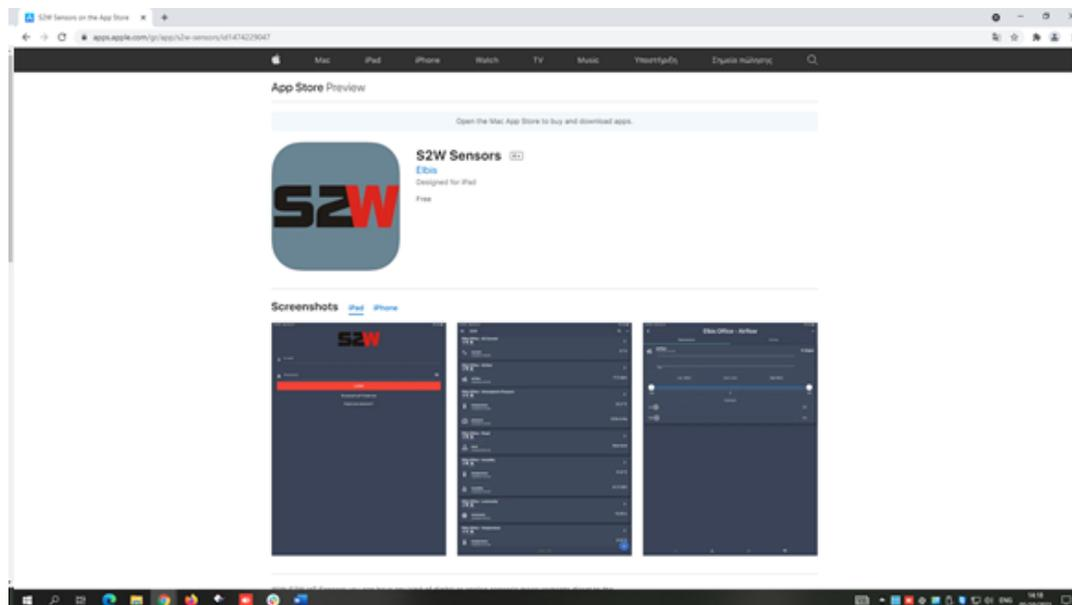

Figure 16
2. <https://apps.apple.com/gr/app/s2w-sensors/id1474229047> (Figure 16)